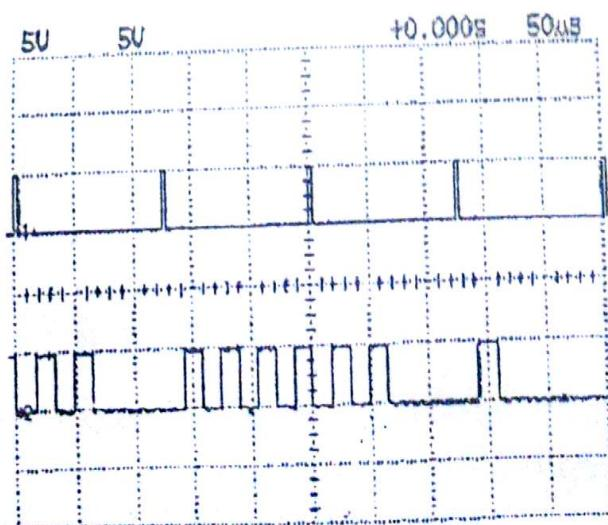

Figure 5-9. Clock signal(above) and PCM direct signal(below)
- (11) If input probe of oscilloscope CH-1, 2 would be connected to SYNC, CLK and PCM OUTPUT terminal of PCM I module, wave form of oscilloscope as figure 5-9 will be appeared. At that time, set TIME/DIV of oscilloscope to $50\mu s$.